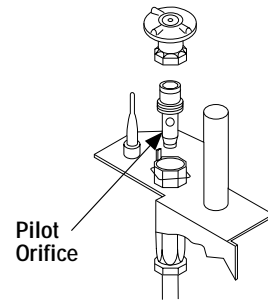

Figure 60
c. Refer to **Figure 60** and remove the pilot hood assembly to access the hexed pilot orifice. Remove and replace the orifice with the one provided with the kit.